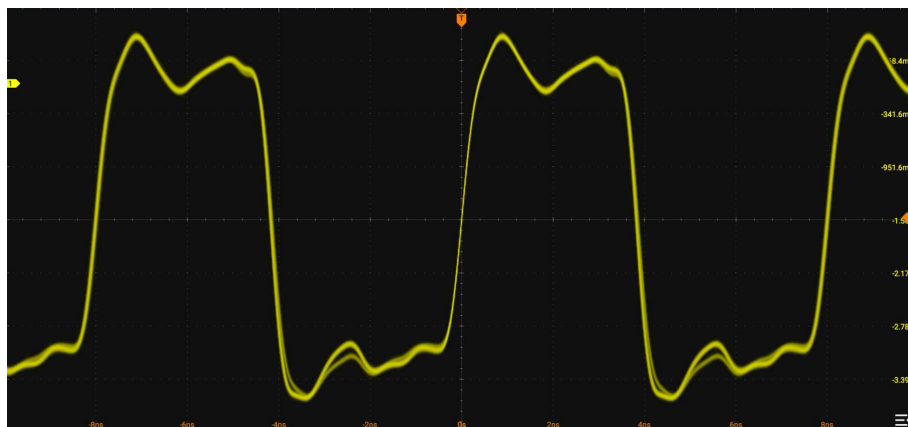

Figure 4.20 Clock Signal Waveform
1. Set the DUT in normal mode to Master and generate a 125 MHz clock signal, as shown in Figure 4.20.